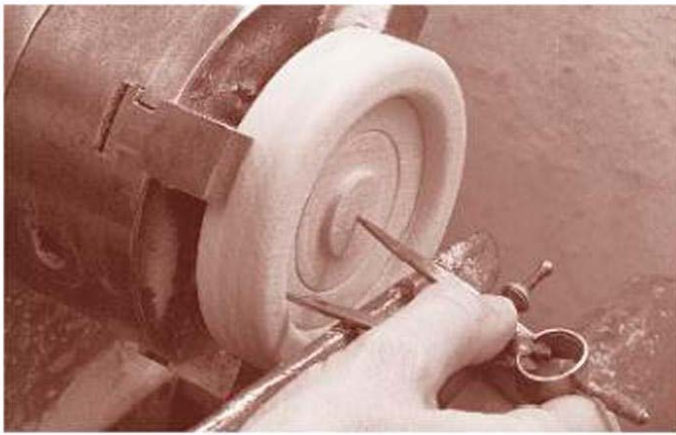

FIGURE 16-9
- 4** Use a parting tool and the skew chisel to turn off the profiles that go to make up the design. Aim for a rim at about ⅜" wide, with the central boss being about 1" diameter, with the face of the boss being about ⅜" lower than the face of the rim (Figure 16-9).